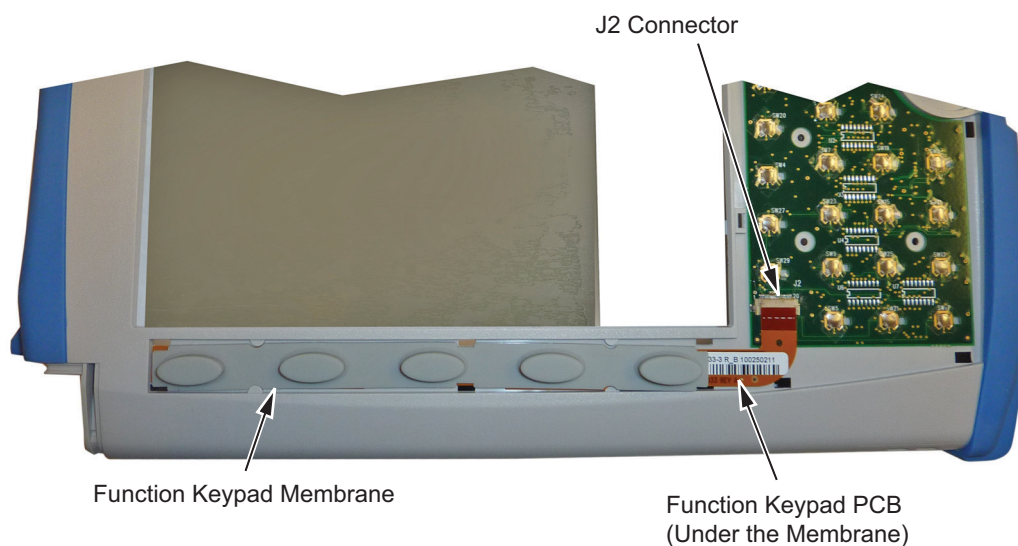

Figure 7-11. Main Numeric Keypad PCB
5. Disconnect the function keypad PCB from J2 of the main numeric keypad PCB by carefully lifting the locking tab on connector J2 to release the function keypad PCB (Figure 7-11).